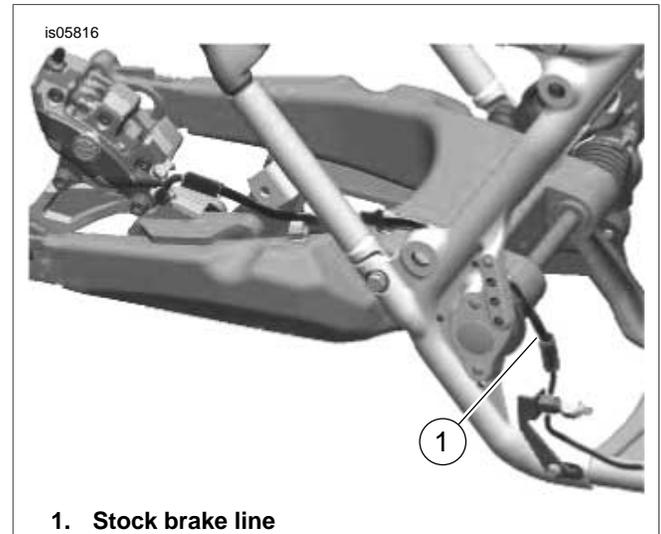

Figure 13. Stock Brake Line Routing (non-ABS brake system shown)
1. See Figure 13. Route the brake line from sidecar to the motorcycle in front of rear mount. The sidecar brake line will run along with the motorcycle brake line as it is routed to the rear caliper. Verify that sidecar brake line is clear of rear fender and rear wheel/tire.